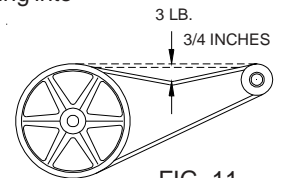

FIG. 11
- **Check belt tension.** A 3 lb. force should deflect the belt 3/4 inches (see Fig. 11). Readjust belt if needed.